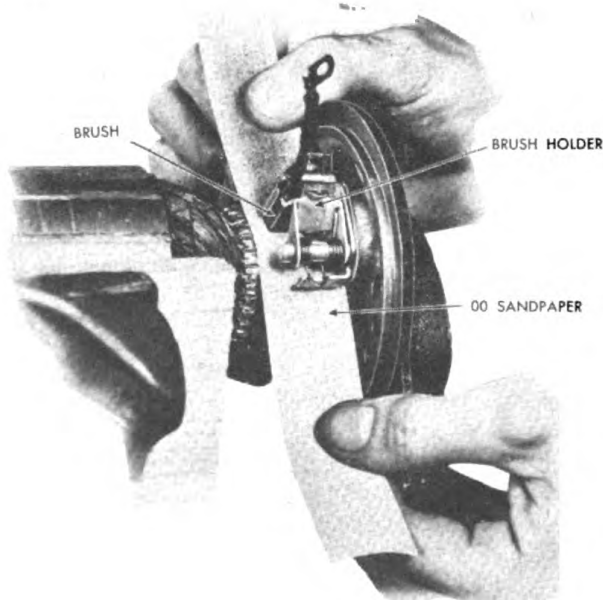

Figure 207. Seating Brushes
A. Inspect the brushes. If they are oil soaked or worn to less than  $\frac{3}{8}$ " long, they should be replaced. Make sure the grounded brush terminals are securely fastened and are free from corrosion. To replace the insulated brush, unsolder the lead from the brush connector and pry open the lead in the connector. Insert the new brush lead to its full depth in the lip and clinch tightly before resoldering. A good soldering job must be done to prevent loss of starting efficiency due to a poor contact. Seat a new brush as shown in Figure 207 according to the instructions in Paragraph 104, Step A.
F. Assemble the commutator end head on the motor and fastening with the holding screws. Assemble the brushes in their holders. NOTE: If brushes have been replaced, they should be sanded according to the instructions in Paragraph 119, Step E, as shown in Figure 207.